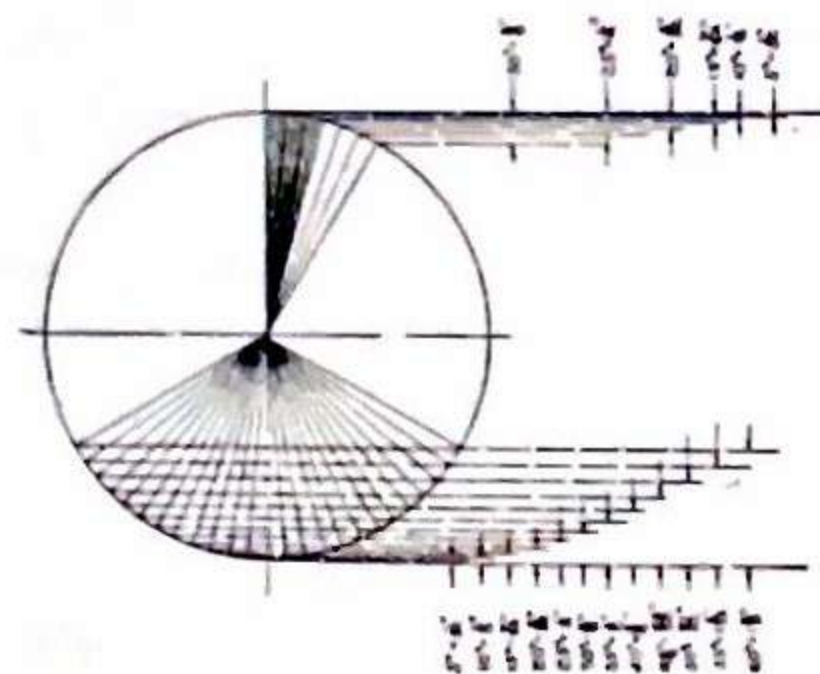

FIGURE 2
Oil is fed to the four cylinders, crank case, and fan bearings by a force feed lubricator (Fig. 2) located in the dash. The lubricator is positively driven from the inlet cam shaft through a flexible shaft and bevel gears, gears incased. A sight feed glass (1) figure (2) is provided on the lubricator for each feed, thereby enabling the driver at all times to see if the proper amount of oil is being fed. Each feed is also provided with a regulating screw (2), whereby the oil flow may be increased or diminished.
The car is equipped with a magneto (Fig. 3, Plate 2 and Plate 12) of the Bosch make, and batteries acting through an Atwater-Kent Generator (Fig. 2, Plate 2). Each system is of the jump spark type, acting entirely independent of the other, and through its own set of plugs in the cylinders. Each system is provided with a switch 1-2 (Fig. 1), enabling the driver to bring into use either system or both, as he may see fit. Both systems are controlled by the one spark lever (14, Plate 1) on top of the steering post.
The other system installed in the Thomas car is also of the jump spark type, the current being generated by a dry battery of eight cells, contained in a box carried on the running board on the driver's side of the car. The timer and coil are of the Atwater-Kent improved type (Plate II., Fig. 2), both coil and timer being contained in a finished wood box located in the dash. The timer is driven directly
The wiring system is shown in Plate II, Fig. 1. Fig. 2 shows a front elevation of the timer and secondary contact makers. The switch (8) is shown located on the outside of the box.